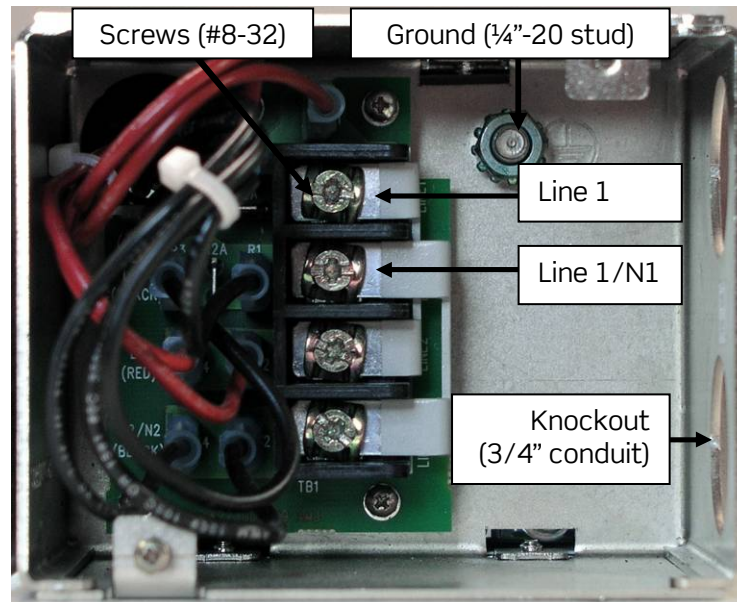

Figure 15 - AC Terminal Block Connections (Single Feed)
2. Connect the line/hot to Line 1, labeled on the AC terminal block (Figure 15).
2. Connect the first line/hot to Line 1, labeled on the AC terminal block (Figure 15).